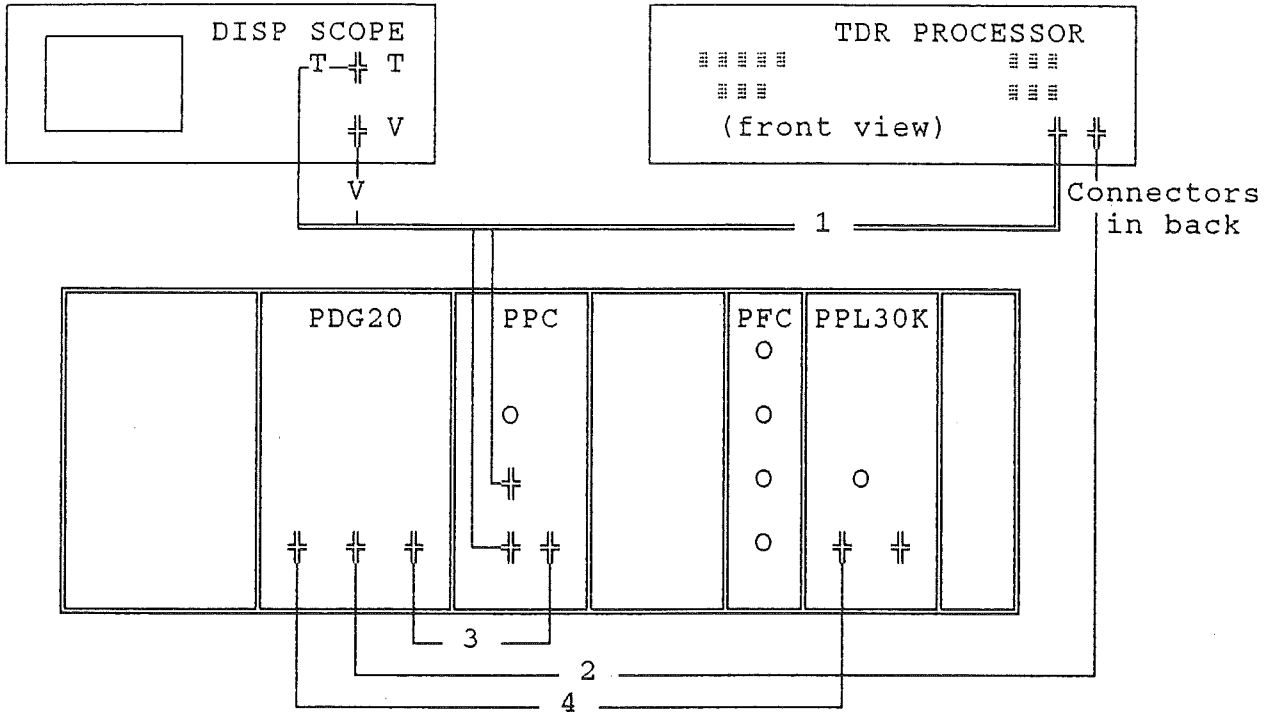

Figure 1
** Set up the OTDR system as shown in Figure 1 below. Make the electrical connections as indicated.